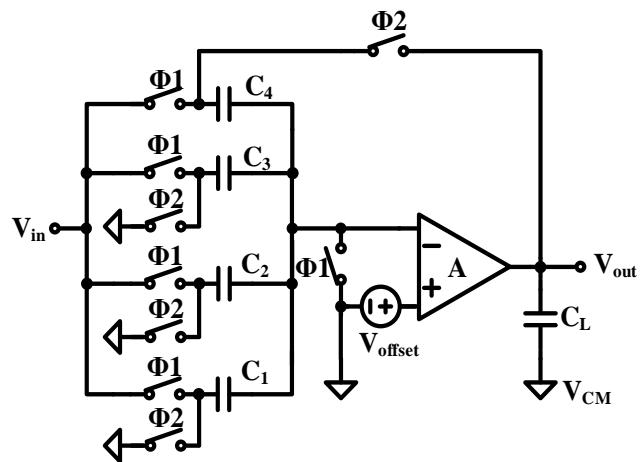
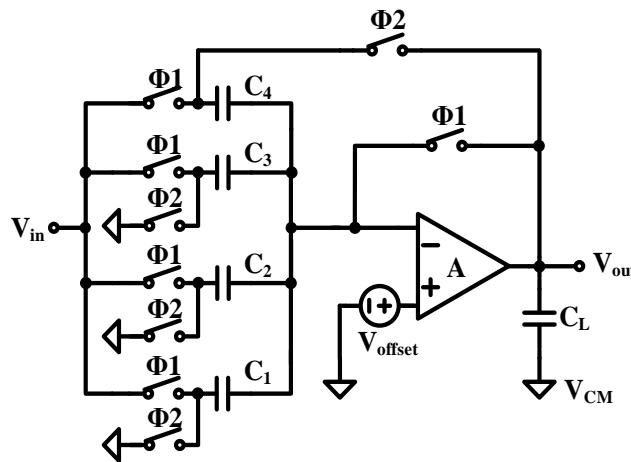

Fig. 1
Fig. 2
- 2. Please express the steady-state output ( $V_{out}$ ) of the **multiplying-by-four gain amplifiers** (as shown in Fig. 1 & Fig. 2) in terms of  $A$ ,  $C_1$ ,  $C_2$ ,  $C_3$ ,  $C_4$ ,  $V_{in}$ ,  $V_{CM}$ , and  $V_{offset}$ , and explain the difference between Fig. 1 & Fig. 2.
- 3. Please design the **multiplying-by-four gain amplifiers** (as shown in Fig. 1 & Fig. 2) including two-stage OPAMP, bias circuit and non-overlapped clock circuit (as shown in Fig. 3). Then verify your design with Spectre/HSPICE. Assume  $C_1=C_2=C_3=C_4=1\text{pF}$  and  $C_L=1.5\text{pF}$